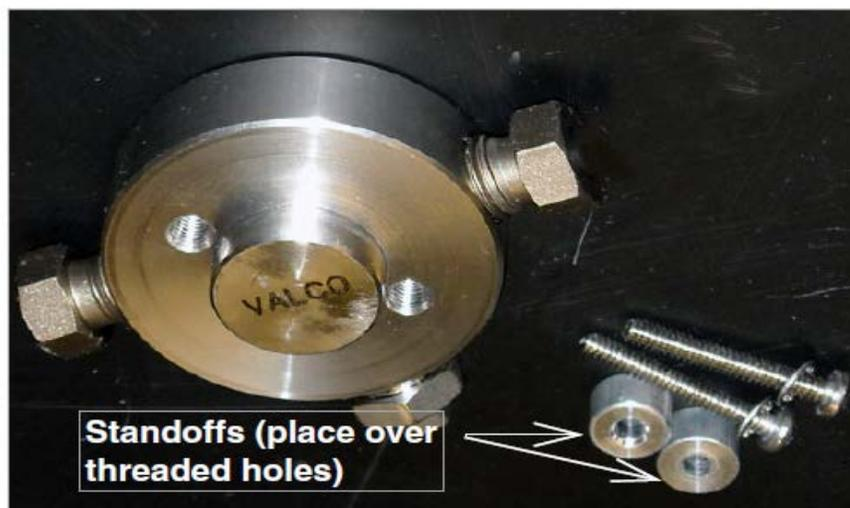

Figure 2-9 Replace the PEEK tee with the metal tee fitting
1. With a 3/32" Allen wrench, remove the PEEK tee fitting and metal tubing from the rear panel of the ELSD unit (refer to Figure 2-9). This will expose both mounting holes for the metal tee fitting.